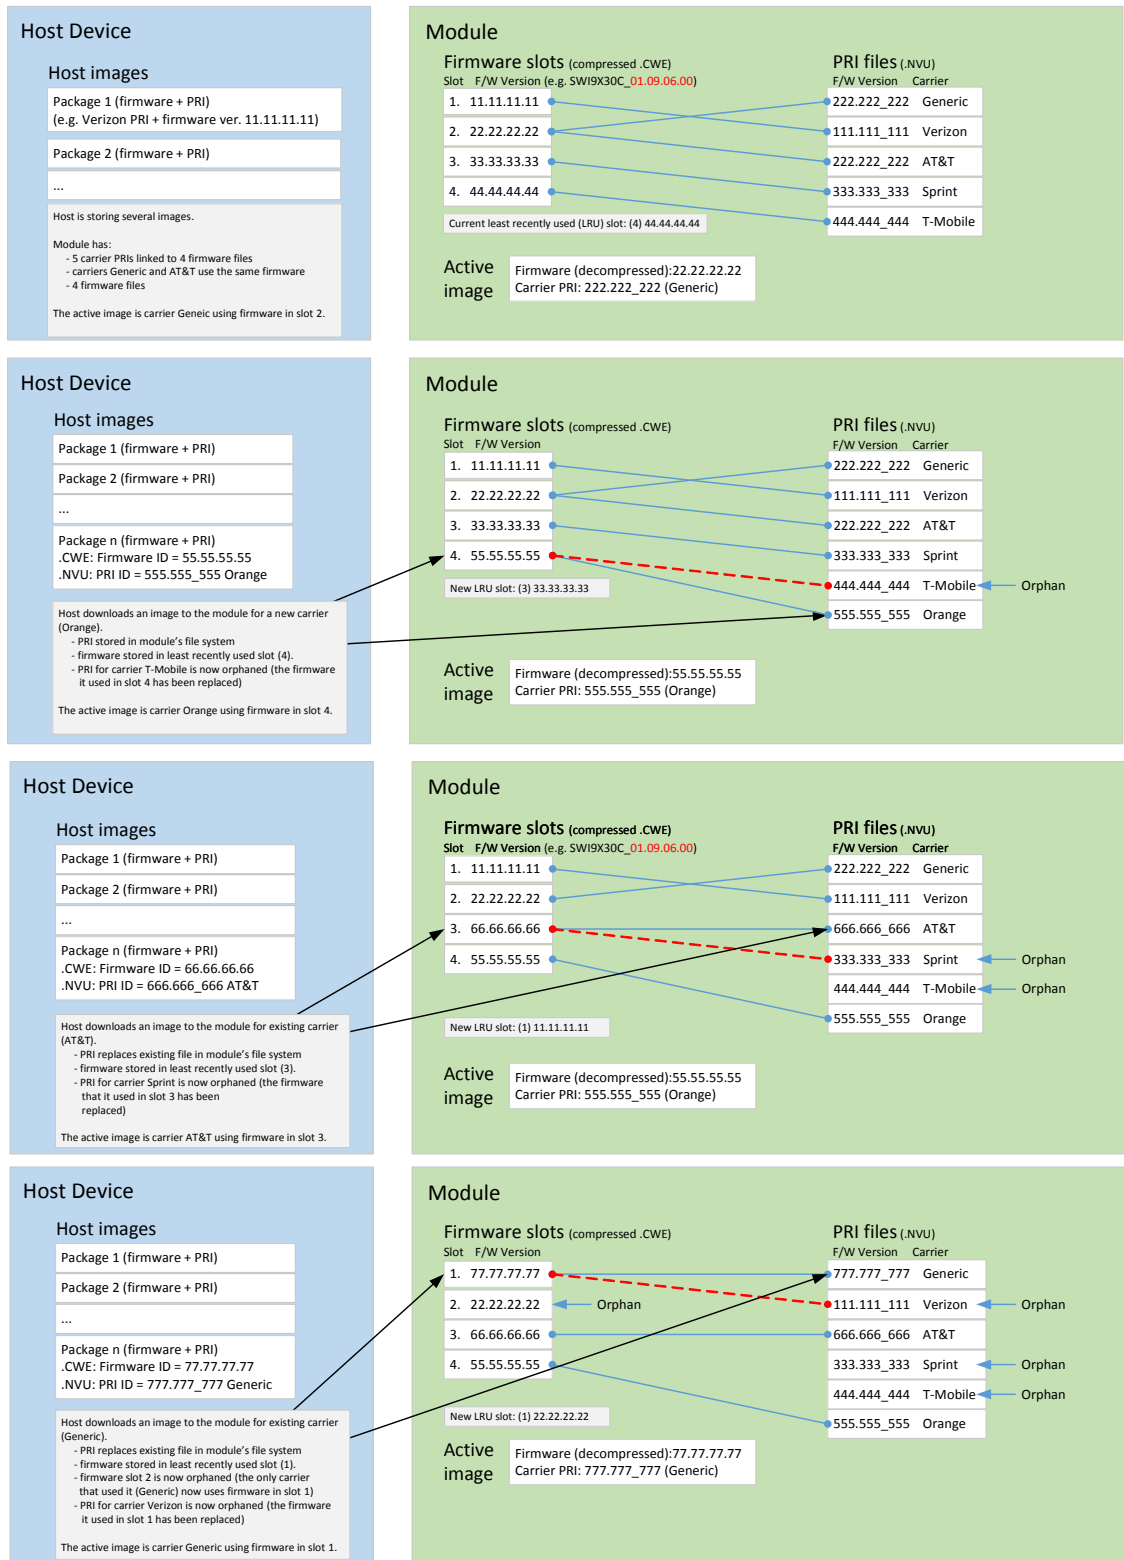

Figure 1-2: Orphaned Firmware and Carrier PRI files
- Otherwise, store it in the first orphaned slot (a slot occupied by a firmware file that is not used by any of the stored carrier PRI files). Figure 1-2 on page 12 illustrates how firmware slots and carrier PRI files are orphaned.
Note: If rarely-used files are removed from the module causing PRIs to be orphaned, and then have to be reloaded, the host has to get them again before they can be downloaded. (See Figure 1-2 on page 12 for an explanation of orphaned files.)